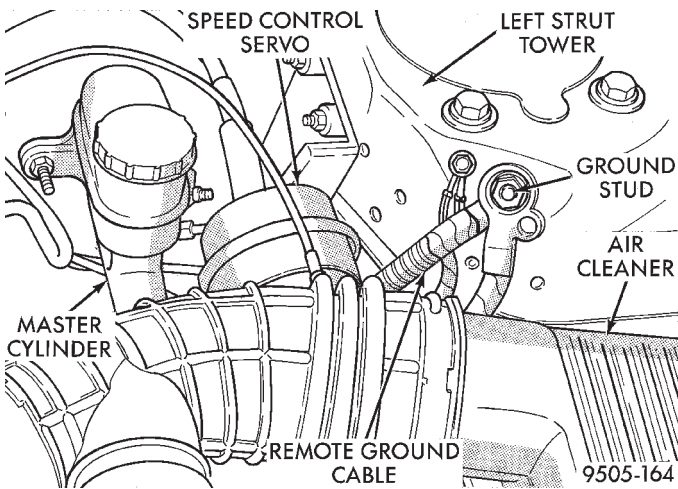
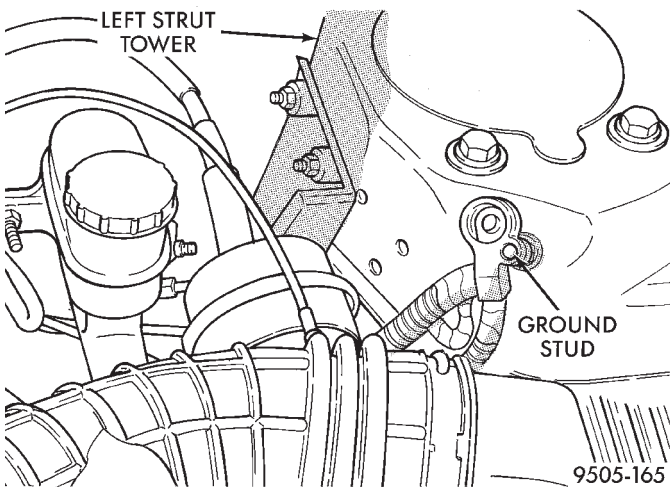

Fig. 2 Remote Ground Cable At Shock Tower
Fig. 3 Correctly Isolated Remote Ground Cable
(1) Remove remote ground cable (Fig. 2) from ground stud on shock tower. Then correctly isolate ground cable from vehicle by installing isolator on stud (Fig. 3).